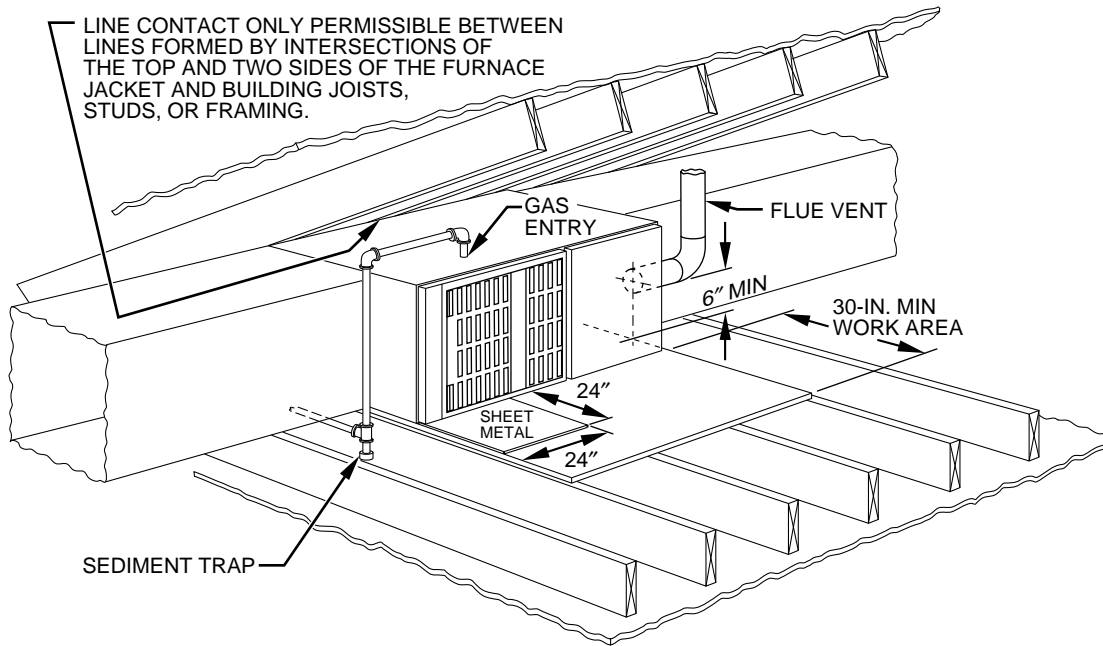

Fig. 7—Typical Attic Installation
The furnace can be installed horizontally on either the left-hand (LH) or right-hand (RH) side. A typical attic installation is shown in Fig. 7.
Construct working platform on location where all required furnace clearances are met. (See Table 1 and Fig. 7.)
2. Connect gas supply pipe. See Fig. 7 for typical piping entry.
5. Install 24- X 24-in. sheet metal shield on platform in front of louvered control panel as shown in Fig. 7.